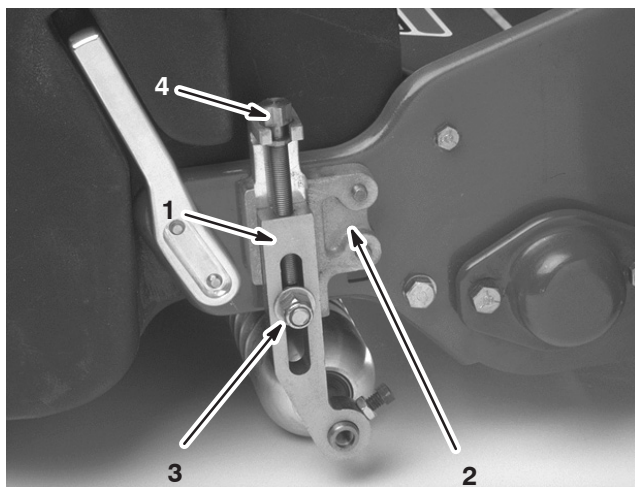

Figure 13
2. Loosen the locknuts securing the height-of-cut arms to the height-of-cut brackets (Fig. 13).